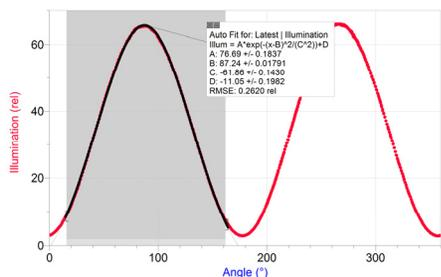

Figure 3: Selection for fits
- **Statistics:** To simply get the angle with the highest illumination, highlight the peak of interest in Logger *Pro* or LabQuest App, as shown in Figure 3. Choose Statistics from the Analyze menu. Record the angle value where the illumination is at a maximum, as presented in the box. This method is the fastest and will result in reproducibility of the angle of rotation measurement of  $\pm 2.0^\circ$ .
- **Gaussian:** To improve your accuracy with a better fit, highlight the peak of interest using Logger *Pro* or LabQuest App as shown in Figure 3. Then, choose Curve Fit from the Analyze menu. From the list of available Equations, select Gaussian. Select Try Fit in Logger *Pro*; in LabQuest App, the fit will run automatically. The B coefficient presented represents the angle at maximum illumination. This method will result in reproducibility of the angle of rotation measurement of  $\pm 0.3^\circ$ . The data are not a true Gaussian, but the ease and accuracy of this methodology make it a good option. For best results, be consistent in the way you select your peaks.